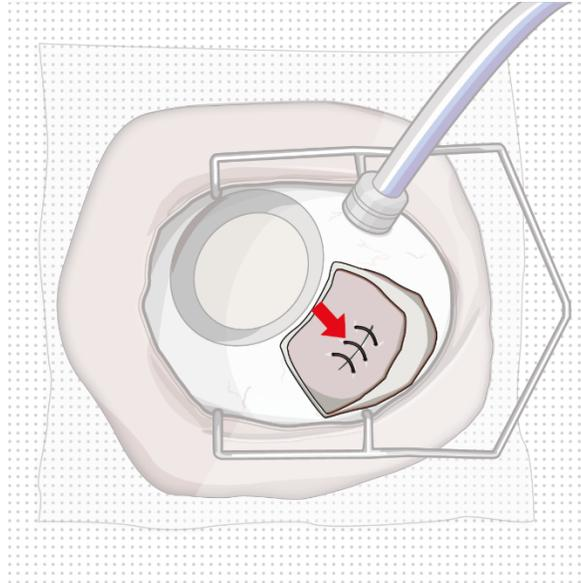

Figure 11
- **Completely close** the scleral incision with non-absorbable (suggested Nylon) sutures (Figure 11). More than one suture will be needed to close the wound. It is recommended to place equally spaced partial thickness interrupted sutures.